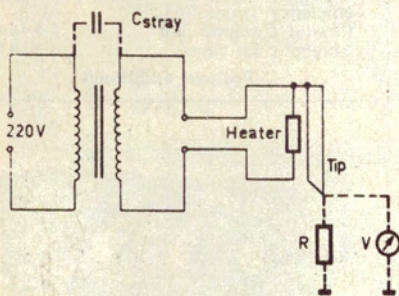

Figure 1. Showing how voltage is capacitively coupled to the soldering iron tip.
The real culprit, the soldering iron, is often not suspected. Perhaps this is not surprising, since it requires some thought to understand how the situation arises where voltage on the tip of the iron can reach destructive levels. Let us firstly consider the construction of such irons, in conjunction with figure 1. The transformer has a 240V primary and, say, 6V secondary. The heat is connected across the secondary, to operate on a nominal 6V. The bit is commonly connected to one side of the secondary, as shown. The real villain of the piece is the voltage coupled from primary to secondary by stray capacitance. The user of this type of iron will probably be very surprised to learn that a stray capacitance of 50pF can result in a voltage of 50V P-P with respect to earth at the soldering iron tip. The purpose of this article is to alert readers to the potential problems which can exist in this context, and to suggest ways of safeguarding against transistor damage.
**Soldering transformer with static screen.** A transformer without a static screen between the primary and secondary windings has a relatively high capacitance between the two windings, and this leads to the relatively high voltages on the tip already referred to. In figure 1, C represents the stray capacitance between primary and secondary, and R the resistance of the soldering tip to earth, consisting of the insulation resistance of the iron, the cable and the transformer with respect to earth. The potential of this tip with respect to earth is measured across this resistance by means of a voltmeter with a very high input impedance  $R_i$ .